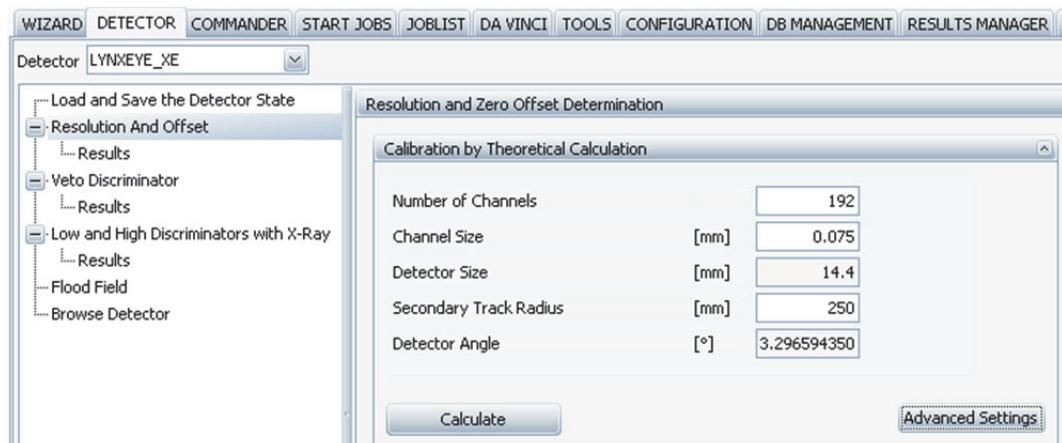

Figure 6.35: Calculate the 'Calibration of the Theoretical Position'
4. Calculate the 'Calibration of the Theoretical Position' and apply it, see Figure 6.35. Click on the 'Advanced Settings' tab to activate the input fields. Use the default values and change the secondary track radius if necessary, do not alter other values. Press 'Calculate'.